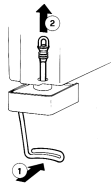

figure 3
- 7 - **Pinch tube faucet:** push the dispensing handle (1) and take the pinch tube off from its seat (2) (see figure 3).